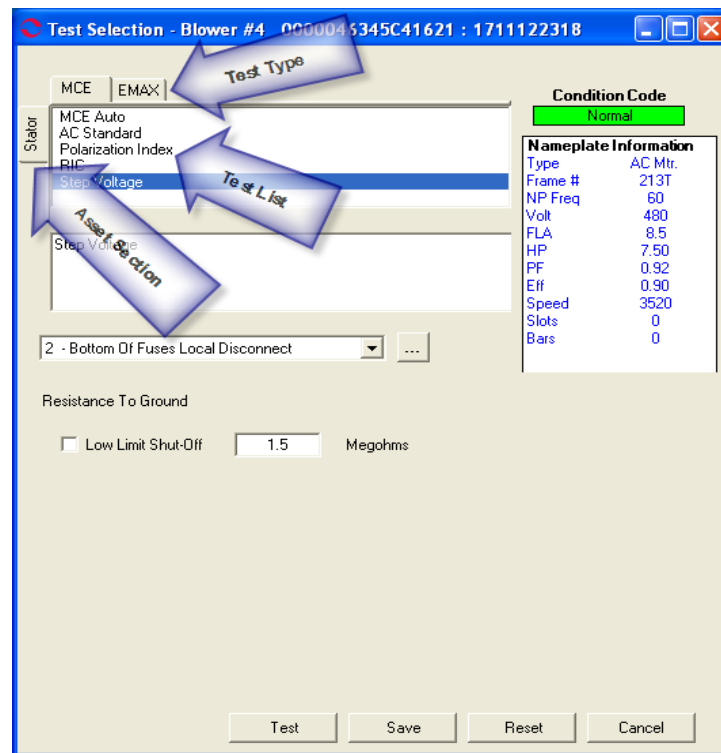

Figure 5-28: Test Selection Window
5. Select the Test Selection icon on the toolbar. The Test Selection window opens, Figure 5-28.